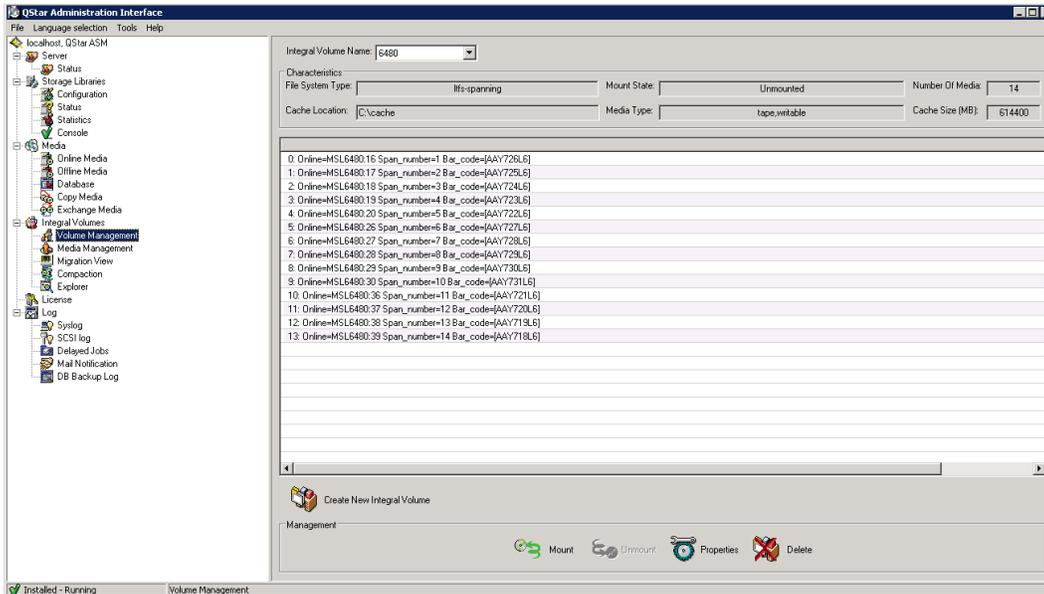

Figure 20. Integral volume with the media added
5. By selecting **Volume Management** under **Integral Volumes** then selecting the integral volume that you added the media to, you can confirm that the media is now associated with the integral volume. See **figure 20** as an example.